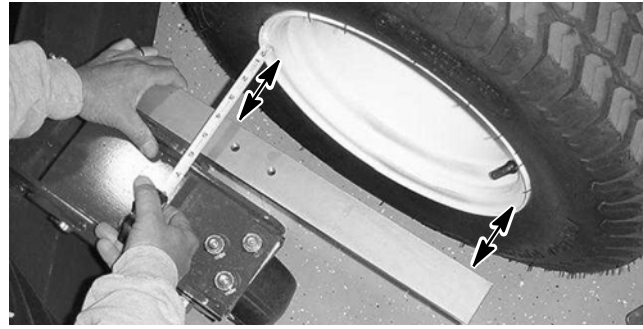

Figure 12
2. Slide pivot shaft through rear arm clevis and hub. Secure pivot shaft with lock washer (item 24) and lock nut (item 25).
3. Connect damper link to cutting deck with clevis pin (item 5) and hair pin (item 6).
4. Position spacers on both sides of rod end of rear arm assembly. Secure rod end of rear arm assembly to deck mount with cap screw (item 3) and lock nut (item 4).
- B. Place a square or straight edge against the deck weldment that contains the castor fork assembly (Fig. 12). Do not use the castor fork assembly itself.
- C. Measure from the inset bead of the rim (not the outer edge of the rim) to the straight edge at two locations as indicated in Figure 12. Rim and paint irregularities make the rim outer edge an unreliable point of measure. These two measurements should be the same within a tolerance of 1/8" (3 mm).
- D. Rotate spring shaft (item 12) in rear arm assembly until correct dimension is attained. Shaft should rotate freely inside the assembly. All adjustments must be made with the rod end of the rear arm bolted to the deck.
- F. When deck is properly aligned to traction unit, tighten rod end jam nut (item 9).